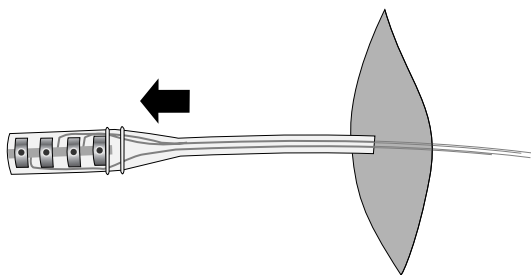

Figure 29. Withdraw percutaneous extension.
7. Hold the setscrew connector and withdraw the percutaneous extension through the incision (Figure 29) and discard.